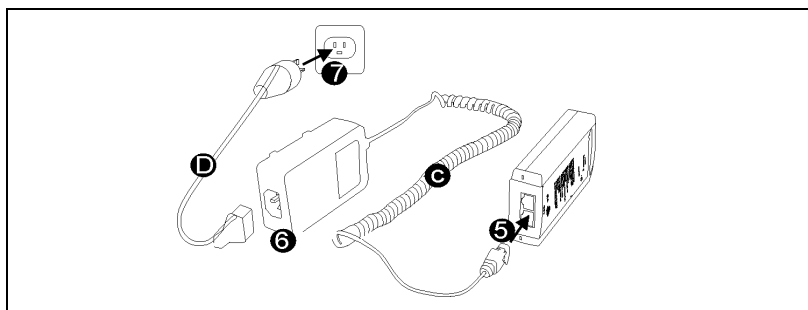

Figure 42. Connecting the D/A Converter to the Power Supply
power port (marked with the  symbol), 5 in Figure 42).
2. Insert the end of the power cord (D) into the power supply electricity connector (6 in Figure 42).
3. Insert the other end of the power cord (D) into an electrical wall socket (7 in Figure 42).